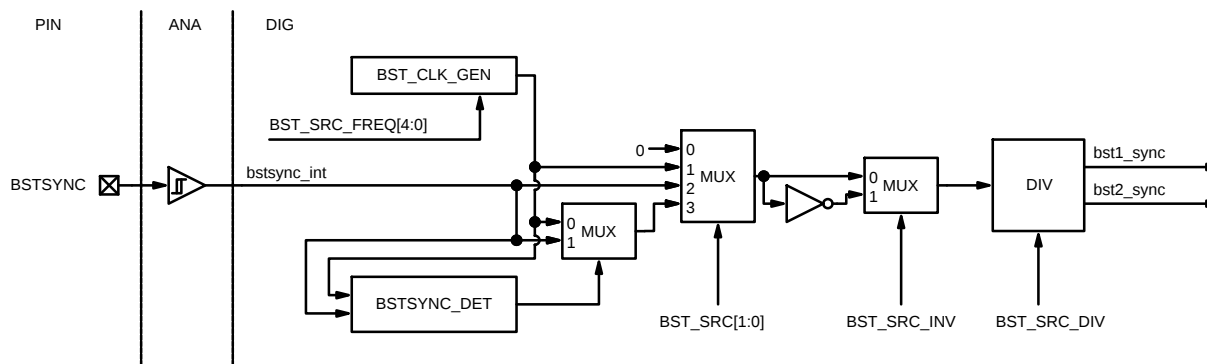
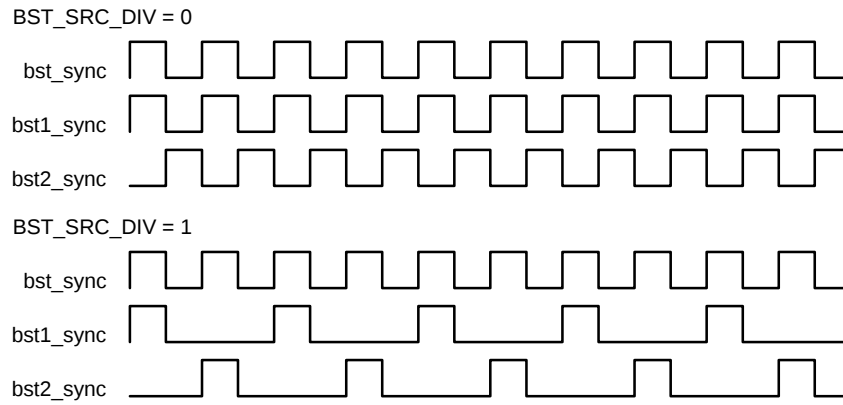

Figure 20. NCV78964 Booster Frequency Generation Block
Figure 21. PWM Generator Clock Divider
When register `BST_SRC = 3`, the automatic booster PWM clock selection is activated. Switch sequence to internal clock is initialized when no rising edge on external source (`bstsync_int` on Figure 20) is detected within 3 consecutive rising edges of internal `bst_sync` clock. For this purpose, internal clock should be set to similar frequency as external source to ensure smooth transitions. Switch sequence to external clock is initialized when rising edge on external source (`bstsync_int`) is detected.
2. To synchronize the MOSFET gate PWM clock and needed phase shifts, the boosters must use the external clock generation (BSTSYNC), generated by the board MCU or external logic, according to the user-defined control strategy. The generic number of lines needed is equivalent to the number of devices. When two chips are combined, the slave device shall have BST_SRC_INV bit at '1' (clock polarity internal inversion active), whereas the master device will keep the BST_SRC_INV bit at '0' (= no inversion, default). On top of that, to get four phases with phase shift, the BST_SRC_DIV bit has to be at '1', meaning that gate clock is divided by two (please see Figure 20 and Figure 21 for more details).